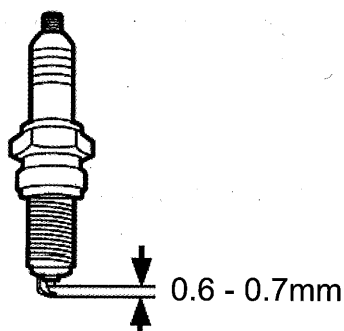

Fig. 53
4. Check the spark plug (20) for damage and wear. The colour of the electrode should be light-brown colored.
7. Check the spark plug gap. It should be 0.6 - 0.7mm (Fig. 53).